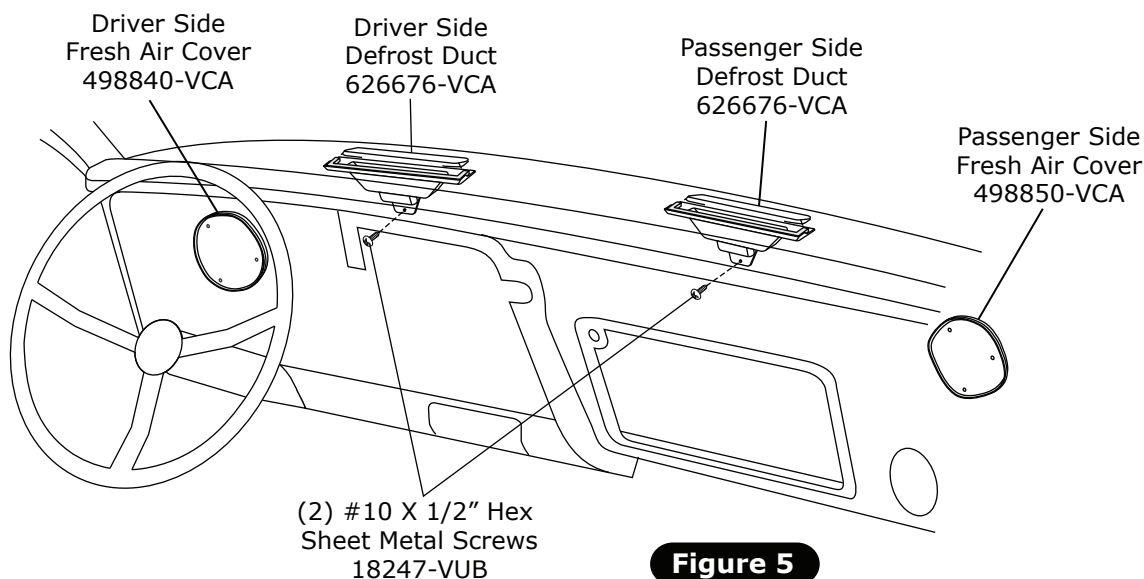

Figure 5
1. Install defrost ducts under dash as shown in Figure 5, below. Align defrost duct with defrost opening in dash, and hold in place. Use bracket as a template and drill a 7/64" hole. Secure using a #10 X 1/2" hex sheet metal screw.
2. Install driver and passenger side fresh air covers, and secure using OEM hardware (See Figure 5, below).